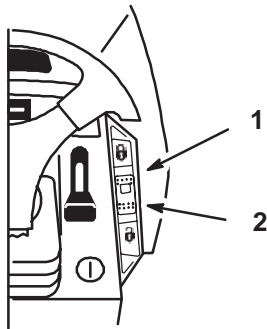

Figure 18
A three position switch, located on the dash (Fig.18), with the functions of: Lock-Set (spring loaded), On and Unlock-Off controls the engagement. Cruise control maintains the traction control position without foot pressure. Cruise control is intended for operation in the forward direction only. Do not use cruise control in reverse.
1. Begin driving tractor: Refer to Driving Forward or Backward, page 19. While holding your foot steady on the traction control, push the cruise control switch (Fig. 18) to the **lock-set** position.
1. While holding your foot steady on the traction control, move the cruise control switch (Fig. 18) to the **unlock-off** position.